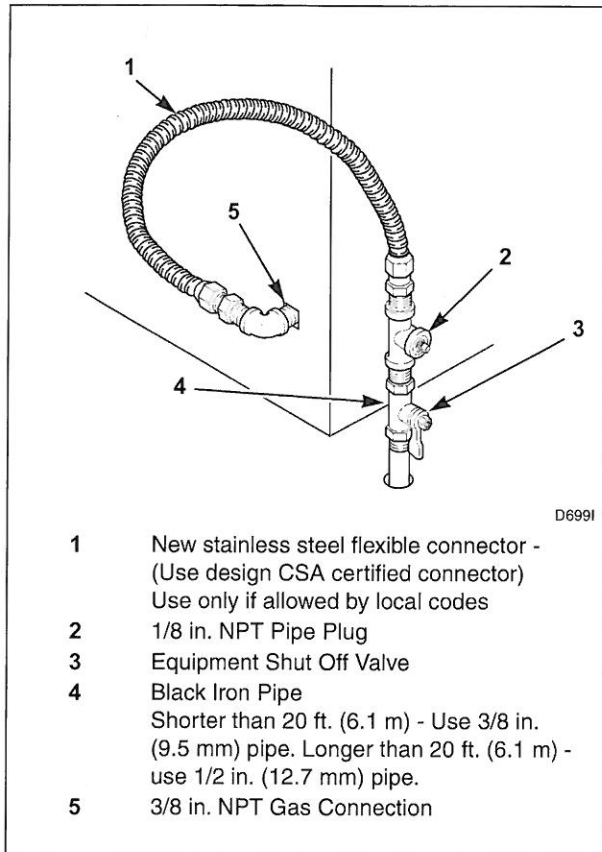

Figure 9
**NOTE:** When connecting to a gas line, an equipment shut-off valve must be installed within 6 feet (1.8 m) of the dryer. An 1/8 in. NPT pipe plug must be installed as shown for checking inlet pressure. Refer to *Figure 9*.